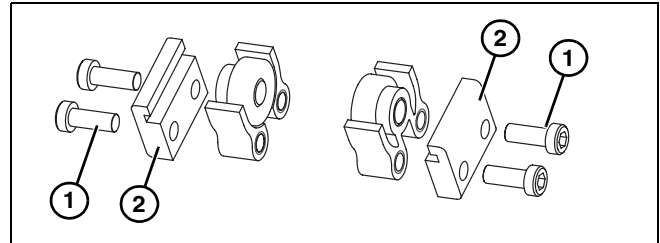
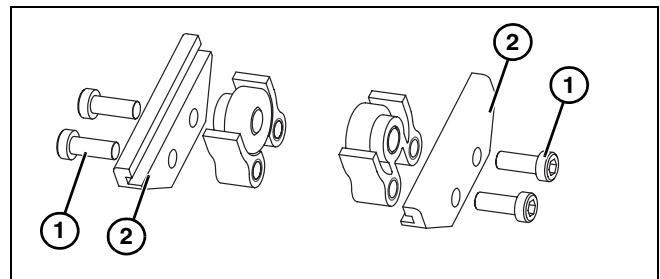

Figure 12
Figure 13
1. Locate return rollers. Exploded views shown in **Figure 12** for flat belt and **Figure 13** for a cleated belt.
2. Remove screws (**Figure 12, item 1**) or (**Figure 13, item 1**) and clips (**Figure 12, item 2**) or (**Figure 13, item 2**) from roller assembly.